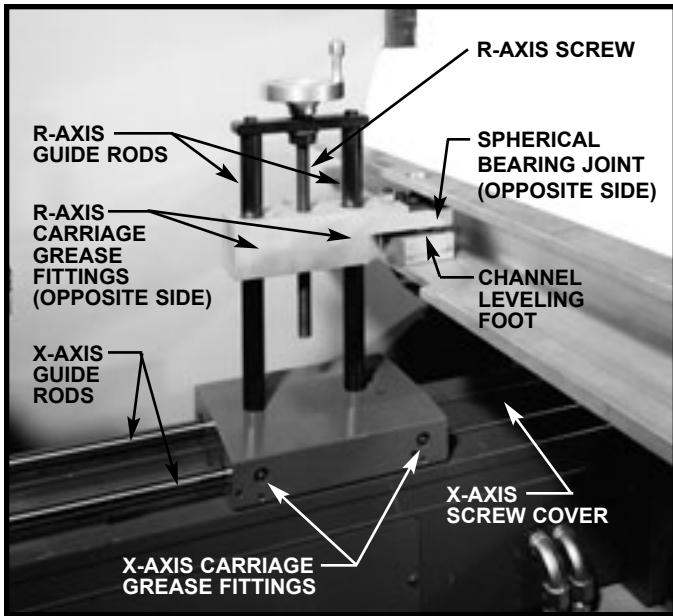

FIGURE 9-5 CNC Heavy Duty Backgage Manual R-axis
- ◆ Clean and apply spray lubricant to the X and R-axis guide rods. See Figure 9-5.
- ◆ Grease the X and R-axis guide bearings using the fittings on the side of each carriage. See Figure 9-5.
- ◆ Apply grease under the channel tapering carriage leveling foot. See Figures 9-5 and 9-6.
- ◆ Grease the channel support arm spherical bearing joints using the fittings provided. See Figure 9-5 or 9-6.